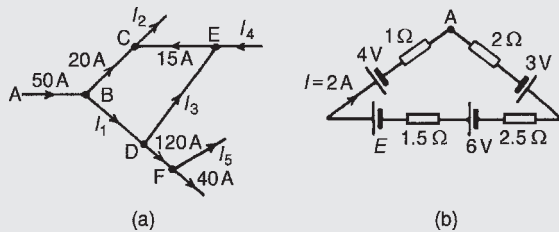

Figure 15.3
- Problem 1.** (a) Find the unknown currents marked in Fig. 15.3(a). (b) Determine the value of e.m.f. E in Fig. 15.3(b).
(i.e. in the opposite direction to that shown in Fig. 15.3(a))
- (b) Applying Kirchhoff's voltage law and moving clockwise around the loop of Fig. 15.3(b), starting at point A: